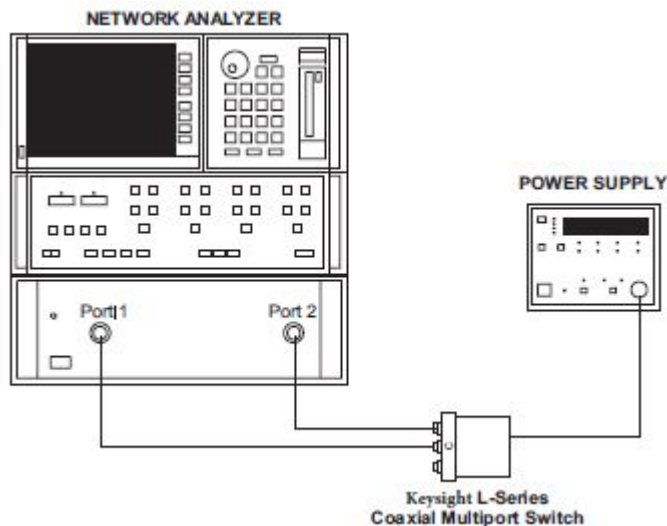

Figure 8 Connection to perform quick check
- 1 Connect common port of switch to Port 1 of the network analyzer and one of the outer RF ports to Port 2 of network analyzer as illustrated in Figure 8.